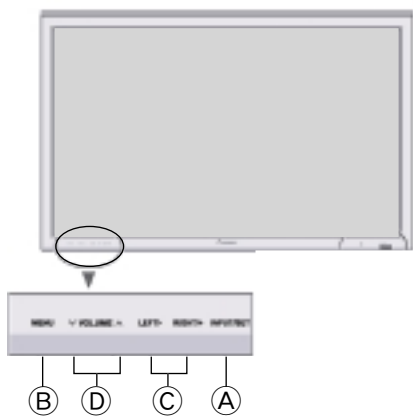

Fig. 4
- Press correspond input key on RUC or INPUT/SET key (A) to select the input source.
- Press the Menu key (B) to open the Service factory Menu.
- Press the RIGHT+/RIGHT- key (C) to select the adjustment item.
- Press the VOL+/VOL - (D) to execute the adjustment.
- Press the Menu key (B) again to close the service factory mode. (See Fig. 4)